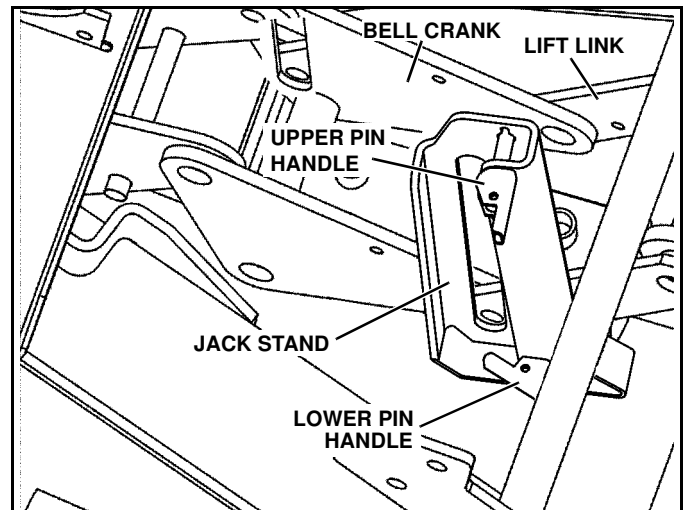

Figure 1-28
6. Disengage both jack stand pins by pulling on handles. Raise the jack stand and engage the bottom pin by pushing on the handle. Make sure pin is engaged in hole by rotating jack stand back and forth. (See Figure 1-28)